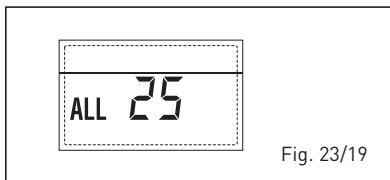

Fig. 23/19
**- AUXILIARY SENSOR ERROR (S3) "ALL 26" (fig. 23/20)**